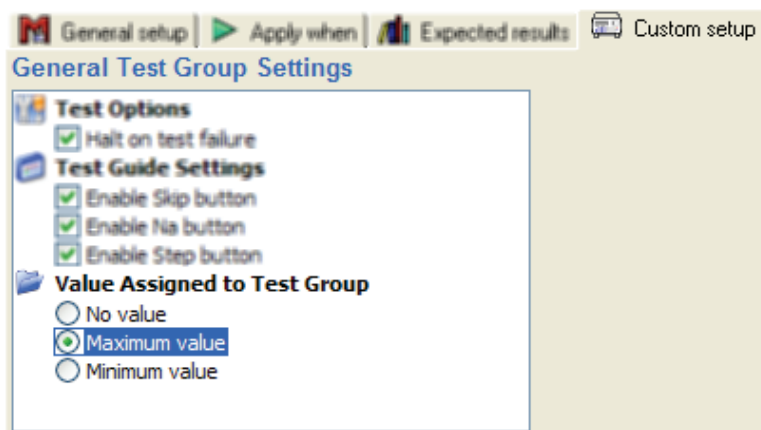

Figure 4-14. Assign Maximum Value to a Test Group
2. Click the test group in the template window and click the Custom setup tab to display the options shown in Figure 4-14.